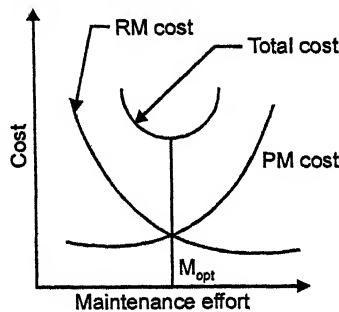

Fig. 4.1.
1. Preventive maintenance is useful when breakdown time distribution exhibits low variability and when the average of preventive maintenance (PM) is less than average cost of repair maintenance (RM) after breakdown.
3. For any complete solution the decision whether to go in for PM or RM will depend upon cost analysis as shown in Figs. 4.1 and 4.2.
- In Fig. 4.1.  $M_{opt}$  indicates *upper limit of maintenance effort*.